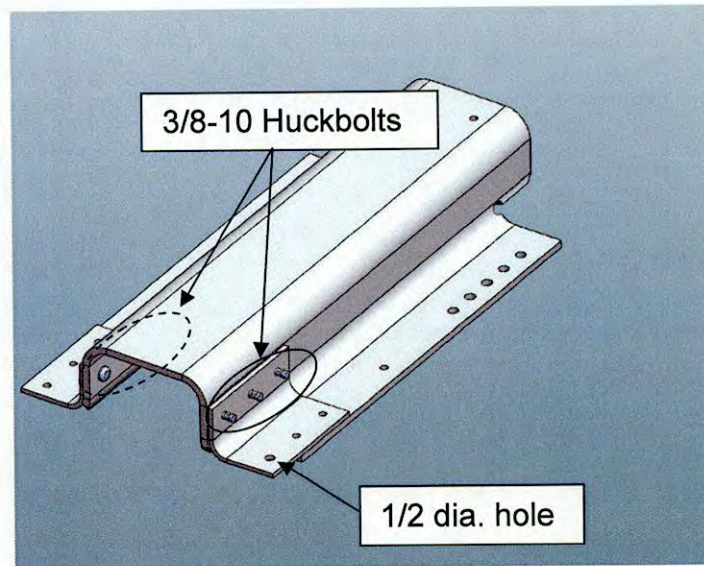

Figure 9
2. Temporarily attach the reinforcements to the front supports using Figure 9 above as a guide. Place 3/8-10 Huckbolts through the holes on the vertical face of the front supports from the inside. While holding the bolts in place, put the reinforcements over them. Ensure that the existing 1/2" diameter hole in the reinforcements is on the horizontal leg of the front supports. DO NOT permanently fasten the Huckbolts – they need to be kept loose for now.